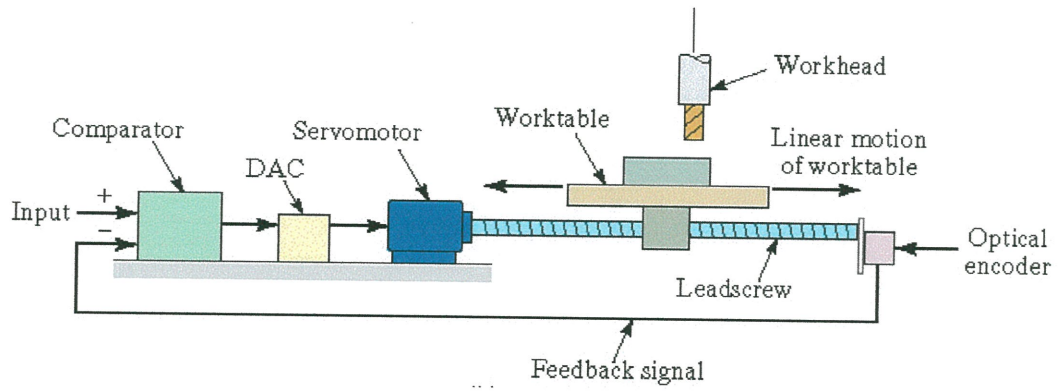

FIGURE Q4
- Q4** (a) A numerical control (NC) worktable operates by closed-loop positioning as shown in **Figure Q4**. The lead screw has a pitch of 25mm and is coupled to the motor shaft with a gear ratio of 10:1 (Ten turns of drive motor for each turn of the screw). An incremental optical encoder generates 500 pulses/rev of its output shaft. Determine:
- (b) An engineer has decided to replace the incremental encoder as shown in **Figure Q4** with a linear absolute encoder along the shaft. Given the specification of the absolute encoder as stroke length 500mm, 12 bits, Gray code. The origin is defined when the table is at the most left and the encoder reads 0000 0000 0000 1100 Gray Code. The encoder value increases as the table moves to the right.